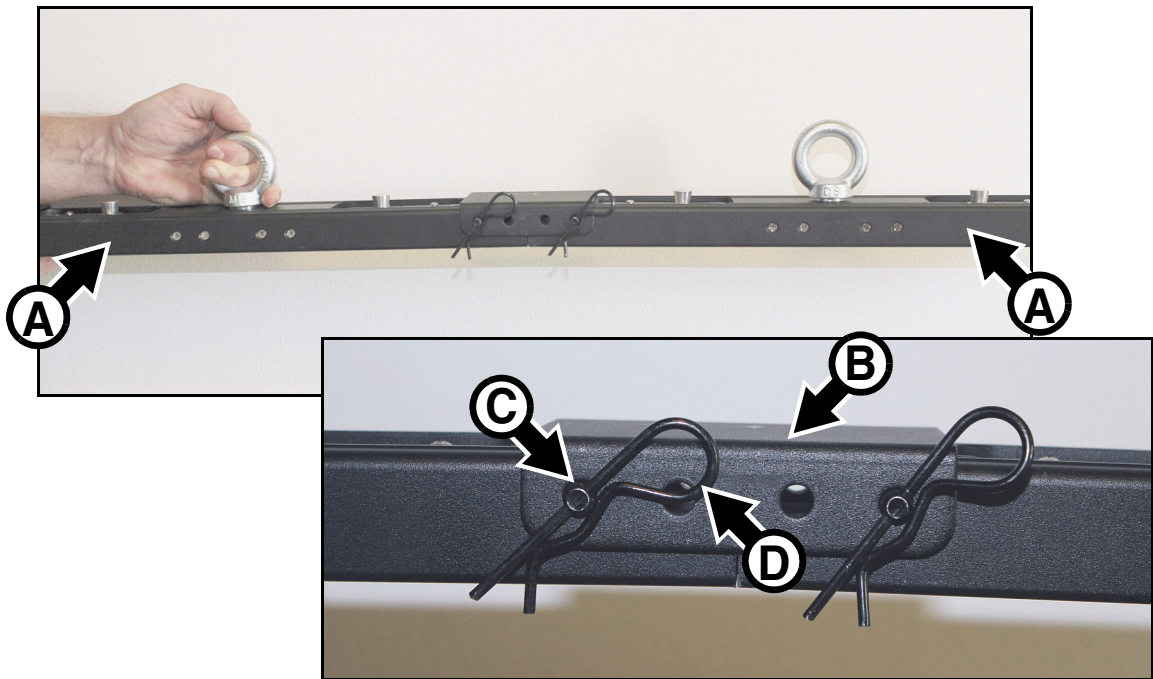

Figure 5: VDO Face Side Connection Brackets
1. See Figure 5. Each time you install two headers **A** beside each other, place a side connection bracket **B** over the ends of the headers and pass the locking pins **C** supplied with the brackets through both the bracket and the headers.